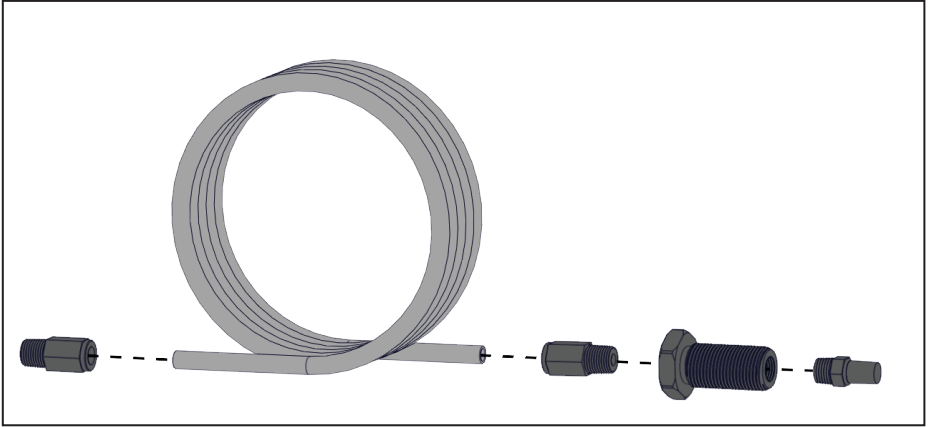

Figure 30 — Tubing Installation Remote Blowdown Muffler assembly
- Install the tube into the push-to-connect bulkhead fitting (Figure 30)